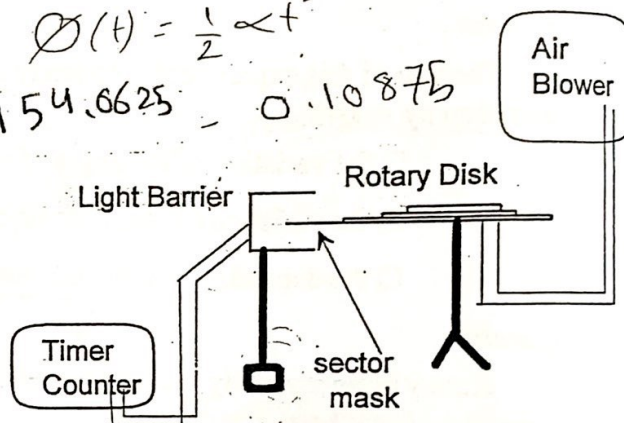

Fig.2: Schematics of Experimental Assembly.
1. The experiment is set up as in figure 2.